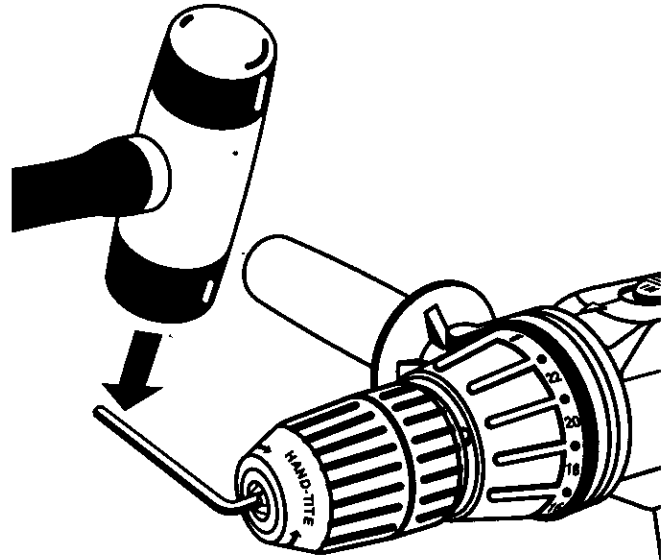

Fig. 17
- Insert allen wrench in chuck and tighten chuck jaws securely. Tap sharply with a mallet in a counterclockwise direction. This will loosen chuck on the spindle. It can now be unscrewed by hand. *See Figure 17.*